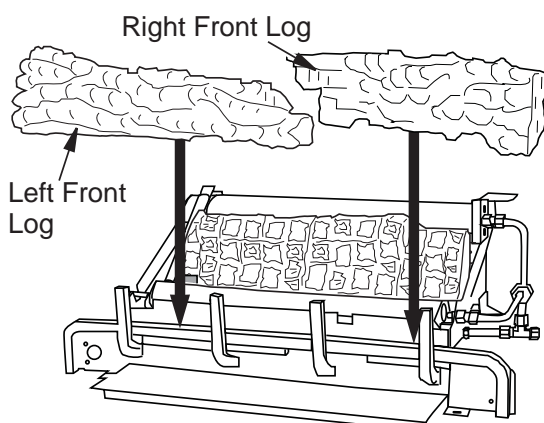

Figure 25 - Installing Left/Right Front Logs
2. Place front left and front right logs as shown in **Figure 25**.